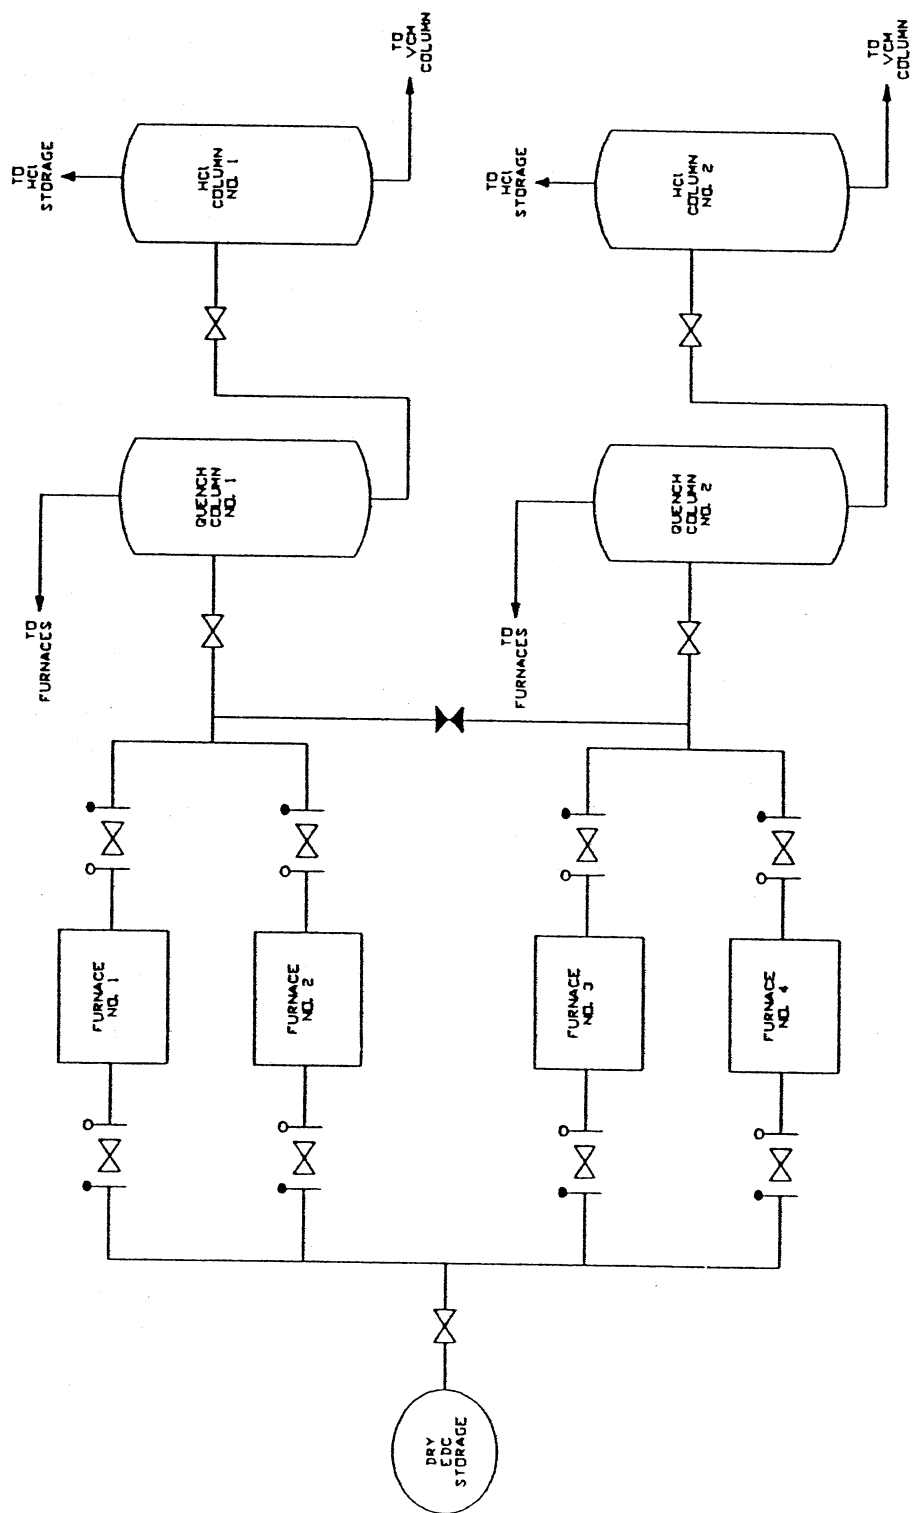

Figure 20.1 Process flow diagram for VCM furnace area.
- Process flow diagrams (Figure 20.1)